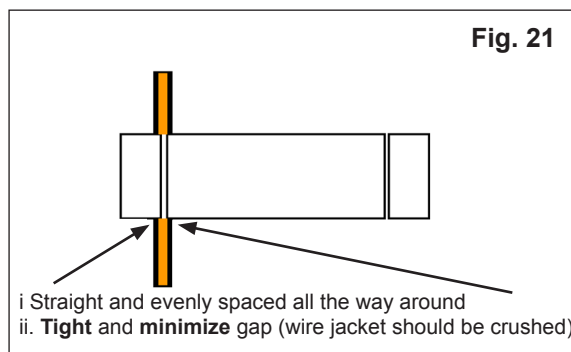

Fig. 21
- 9) Inspect the tap to ensure correct installation. (**Fig. 21**)